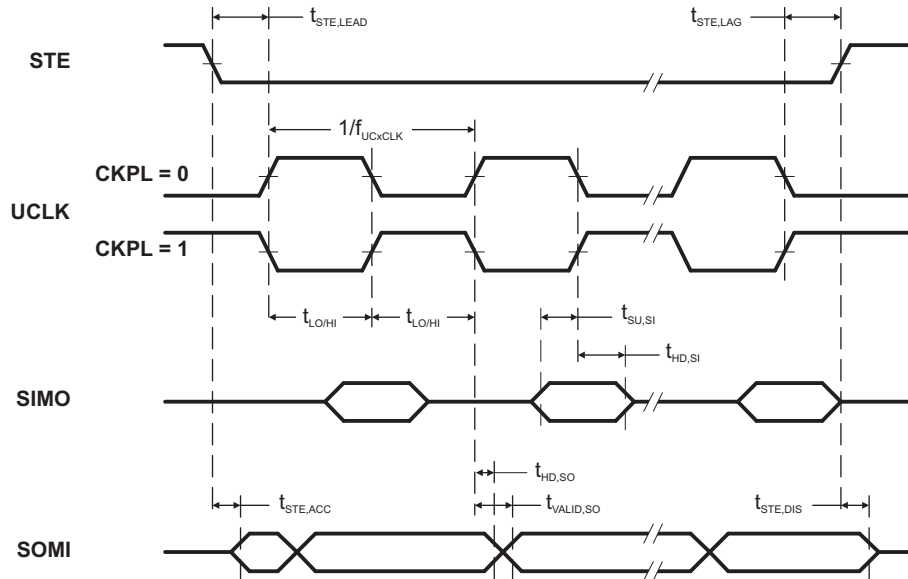
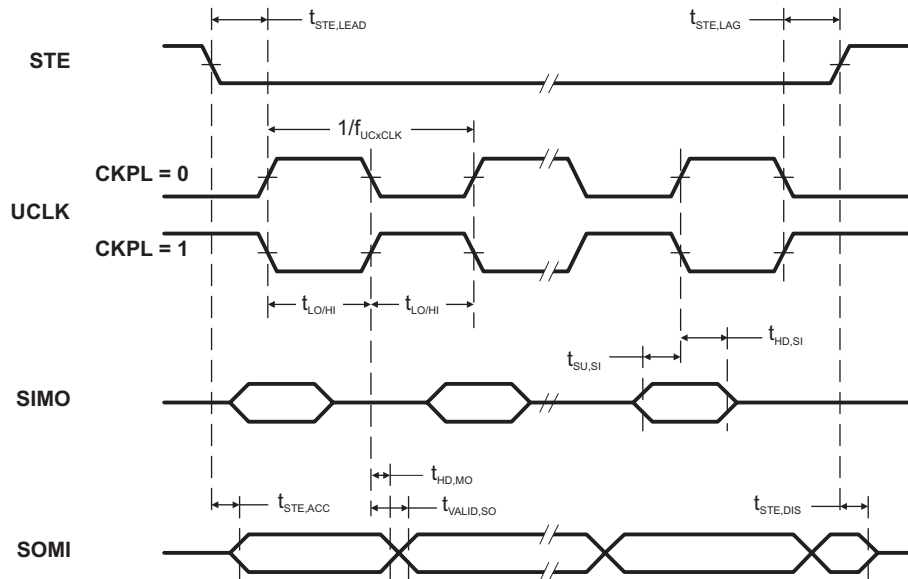

Figure 5. SPI Slave Mode, CKPH = 0
Figure 6. SPI Slave Mode, CKPH = 1
(see Note ⁽¹⁾, Figure 5, and Figure 6)
- (2) Specifies the time to drive the next valid data to the SOMI output after the output changing UCLK clock edge. Refer to the timing diagrams in Figure 5 and Figure 6.
- (3) Specifies how long data on the SOMI output is valid after the output changing UCLK clock edge. Refer to the timing diagrams in Figure 5 and Figure 6.